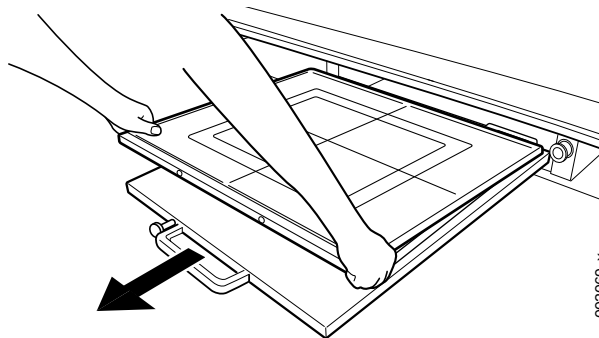

Fig. 4-62 Detector removal
2. Remove the detector by pulling it toward you according to **Fig. 4-62**.